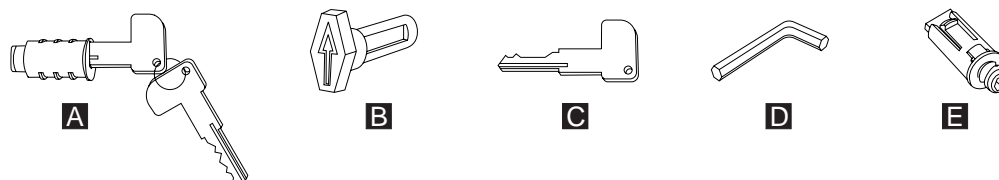

Figure 71. Lock accessories
1. The lock insert fits all the way into the lock cylinder only when the slot in the bottom of the cylinder and the lug on the end of the insert are aligned. If necessary, insert the aligner tool (see Figure 71) into the lock cylinder and
1. Insert the blank lock-insert handle into the blank keylock cylinder (see Figure 71 on page 84).